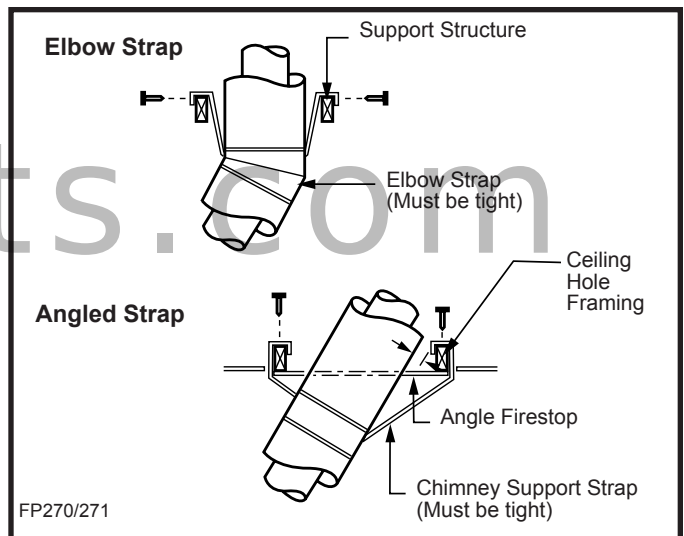

Fig. 18 Attach straps to a structural framing member.
**CAUTION:** WHEN INSTALLING A FIREPLACE IN AN INSULATED ENCLOSURE, BE SURE ALL REQUIRED AIR SPACES ARE MAINTAINED. (Page 13, Fig. 18)
When installing elbows, only outer pipe will snap-lock. Middle pipes simply slide into position. Be sure to always attach straps on upper elbow to a structural framing member. (Fig. 18)